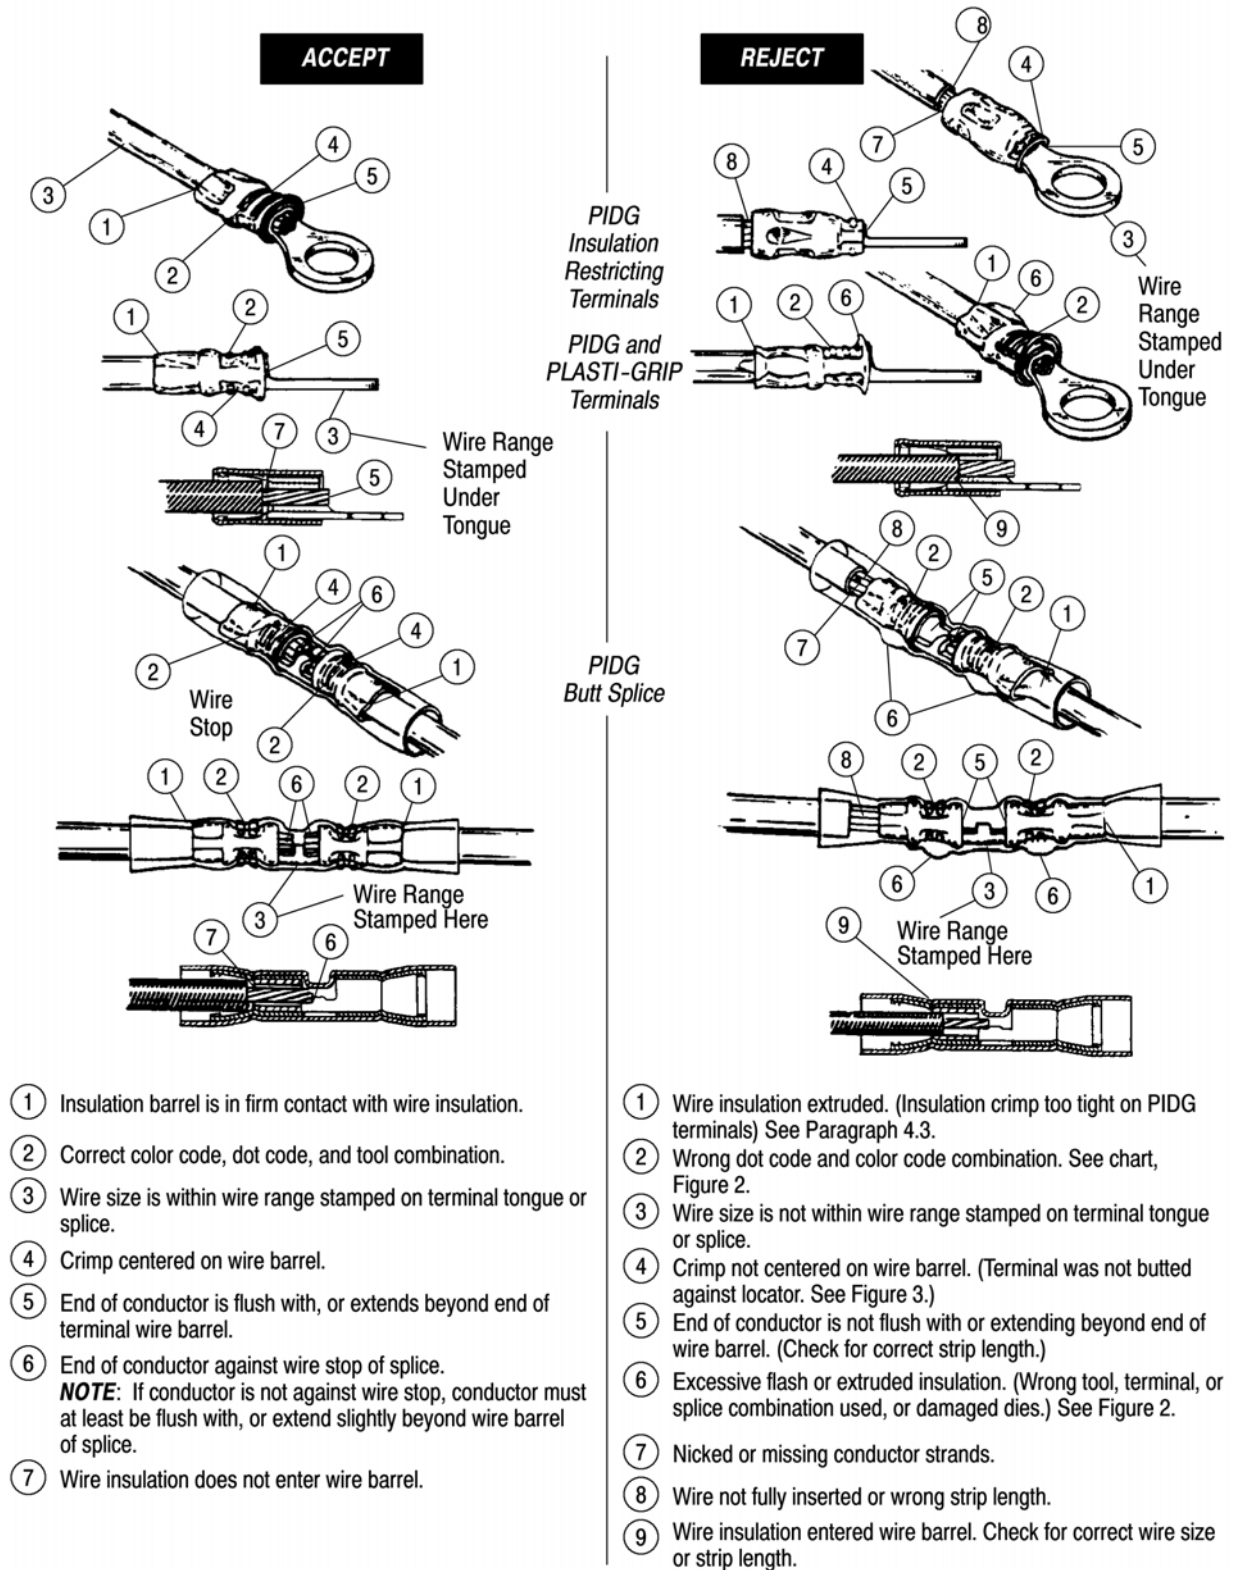

Figure 6
6. Refer to Section 5 and Figure 6 for crimp inspections.
7. Refer to Section 5 and Figure 6 for crimp inspection.
Inspect crimped terminals and splices by checking the features described in Figure 6.